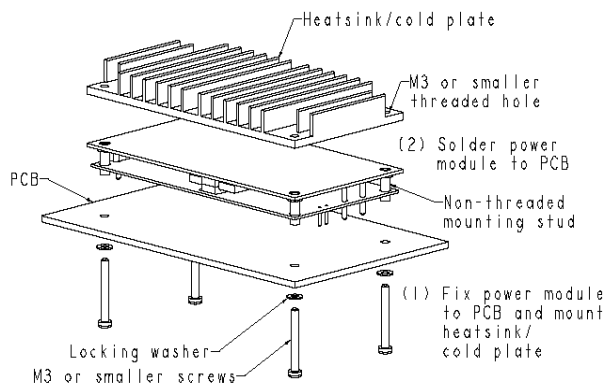

Figure 3 - Assembly Sequence for Non-Threaded Studs
- Non-threaded stud version (Figure 3):